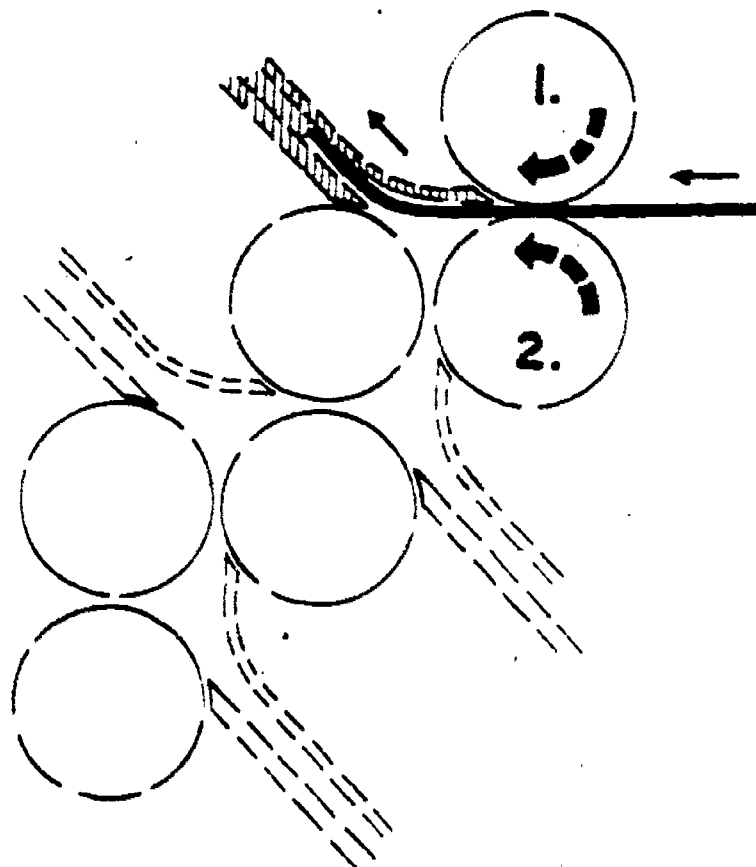

Figure 9-3. Step 1: The unfolded sheet is carried into fold plate number 1.
The following is a step-by-step description of how a sheet of paper goes through standard folding sections of a typical folding machine. Figures 9-3 through 9-8 illustrate the procedure.
a. *Step 1.* The sheet is advanced from the feed table or cross carrier, and enters between the 1st and 2d rollers of the folding section. If, according to imposition requirements, the first fold is to be made in the number 1 fold plate, the number 1 deflector is raised by the operator during make ready, thereby opening the number 1 fold plate. The 1st and 2d rollers drive the sheet up into the open number 1 fold until the leading edge of the sheet strikes the fold plate gage, which has been preset by the operator to fold size requirements (fig. 9-3).